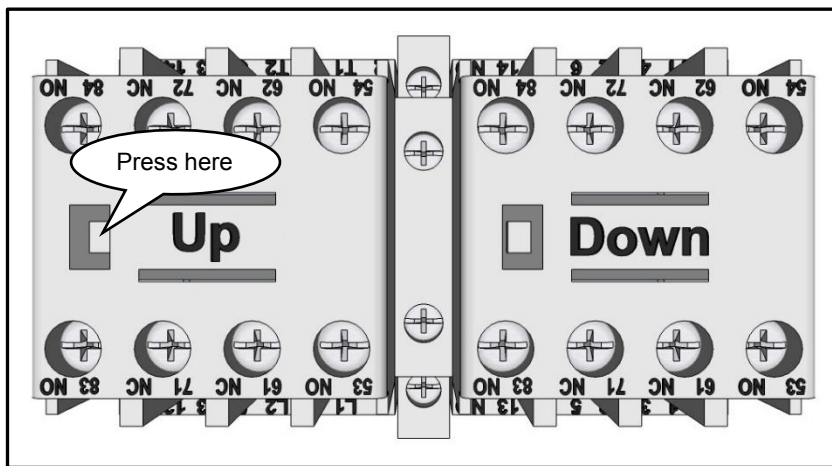

Figure 17
- 2 To check the motor rotation, open the control box and locate the Down "D" and Up "U" contactor. (see Figure 17)